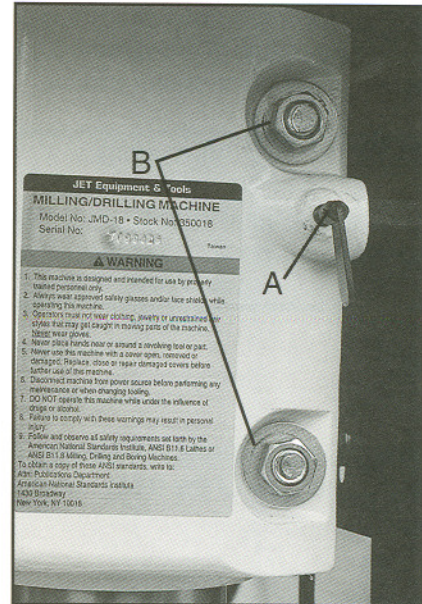

Fig. 9
Motor Mount Lock Lever (A, Fig. 9) - located on the right side of the head casting. Locks and unlocks the motor mounting plate. Loosen to tension v-belts and then tighten.
Head Pivot Lock (B, Fig. 9) - located on the right rear of the head casting. Loosen two hex nuts to rotate the head 360°. Tighten two hex nuts to lock the head.
3. Loosen the motor mount lock lever (A, Fig. 9) and pull the motor toward the head casting to release tension on the v-belts.